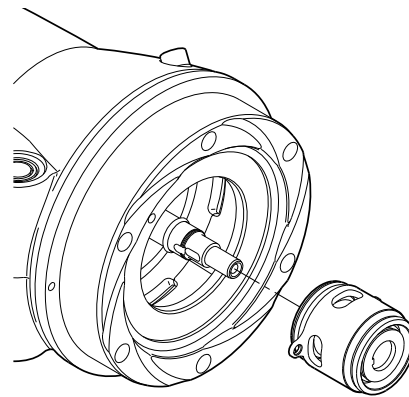

Fig. 15 Fitting the shaft seal, 2.6 - 4 kW
- Fit two screws (188a) in the shaft seal carrier (58). See section 8. *Torques and lubricants*.
- Fit the key (9a) on the shaft (172) and lubricate the surface of the key.
- Fit the shaft seal (105a) to the shaft. Make sure that the pin of the shaft seal engages with the shaft groove. See fig. 15.